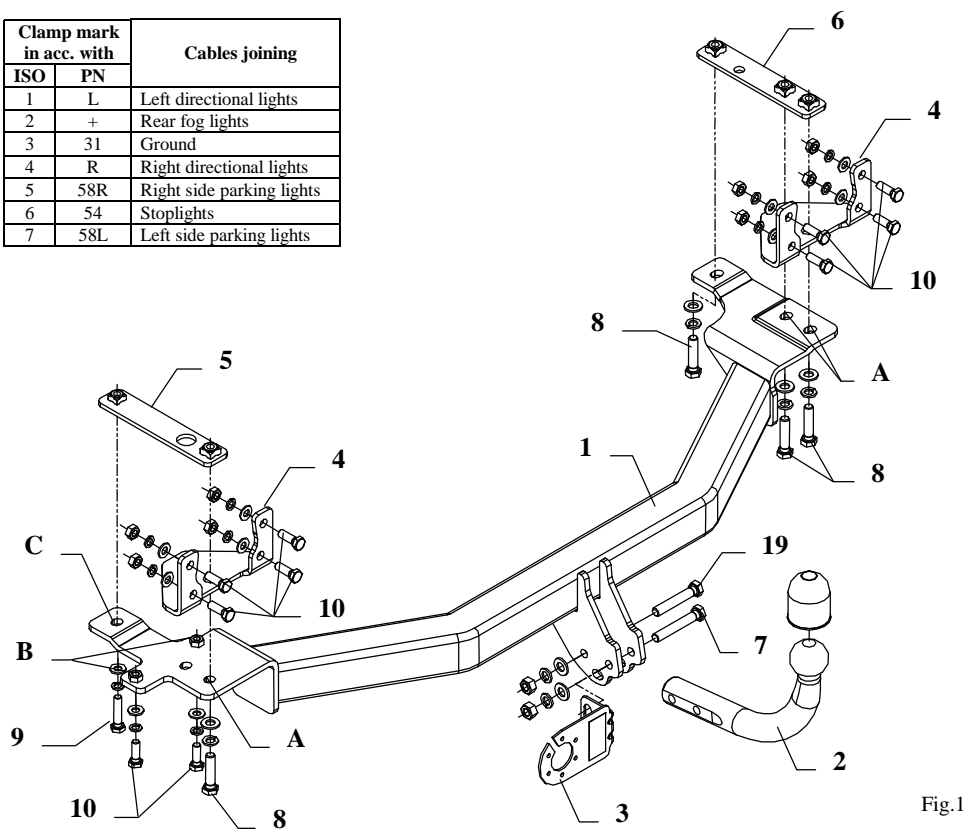

Fig.1
5. Fix angle brackets (pos. 4) from the right and left side of suspension using bolts M10x30mm (pos. 10) - see fig.1.
6. To the chassis members slip elements (to left – pos. 5 and to right – pos. 6).
7. Put main bar of the towbar (pos. 1) from below the car and fix through towbar holes (pos. A) using bolts M12x50mm (pos. 8).
8. In types produced since 1993, early unscrewed muffler handle, screw in points (pos. B) using bolts M10x30mm (pos. 10). In types produced since 1997, handle fix in point (pos. C).
10. Fix tow ball (pos. 2) using bolt M12x75mm (pos. 7) and M12x70mm (pos. 19). With bolt M12x75mm fix also a socket plate (pos. 3). See figure 1.